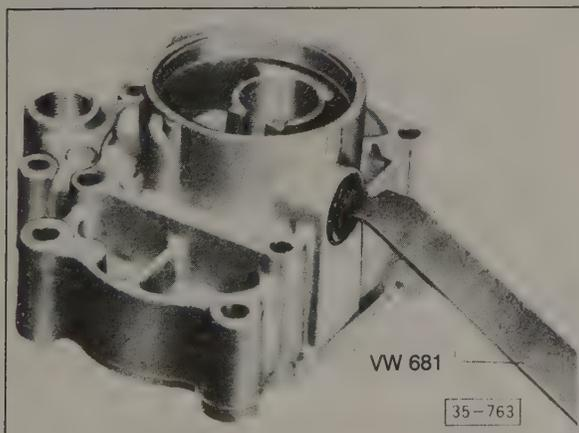
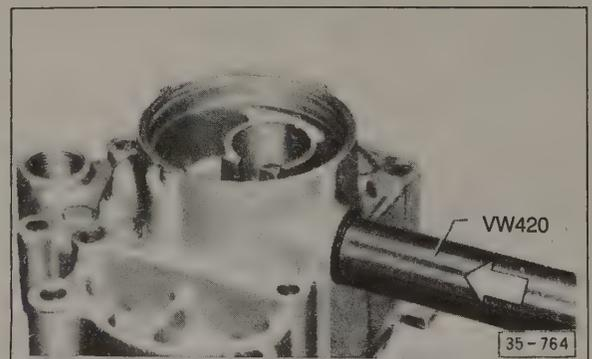

Fig. 6-11. Clutch release shaft oil seal being removed.
Fig. 6-12. Clutch release shaft oil seal being installed.
- Remove the oil seal as indicated in Fig. 6-11. Drive in a new oil seal as shown in Fig. 6-12.